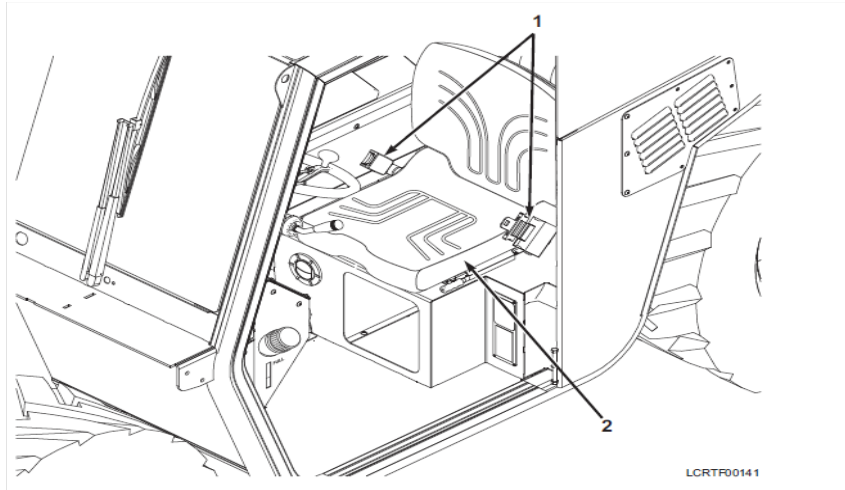

Figure 3-73
3. Fasten seat belt (Figure 3-73, Item 1).
4. Adjust operator seat (Figure 3-73, Item 2) so that when your seat belt is buckled, you can still press the foot pedals.